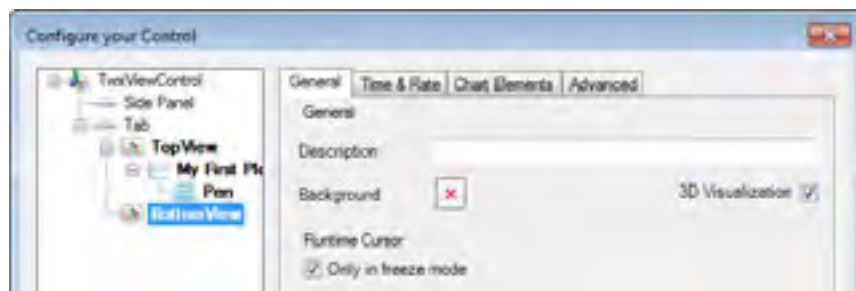

Figure L1.9 - Turning on 3D Visualization
13. Put a checkmark in the BottomView chart's 3D Visualization checkbox, illustrated in Figure L1.9, to show data in the new chart view in 3D mode.